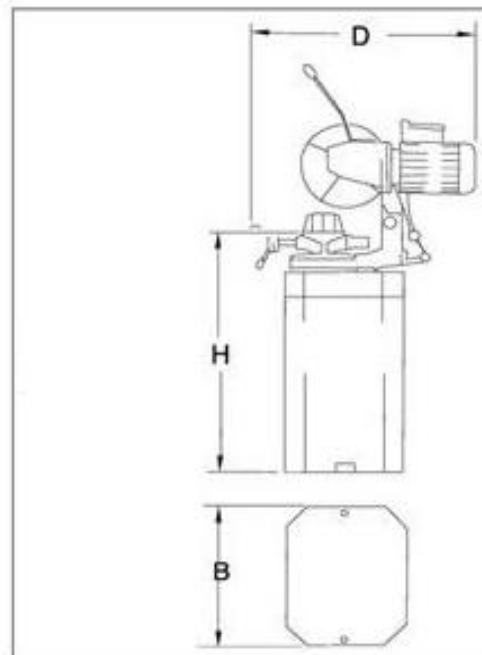

Fig 2.01
2.2 Survey and sketch of dimensions (see fig. 2.01)